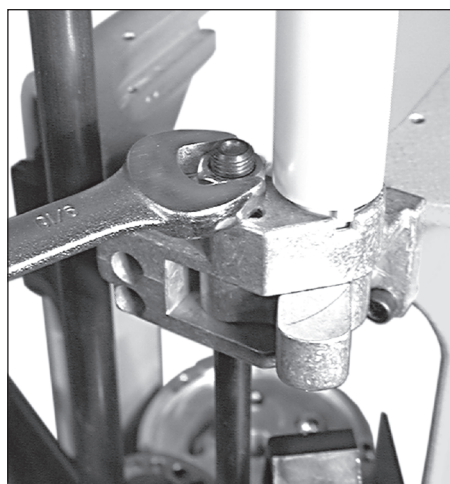

FIG 189
2. Using a 9/16" wrench, loosen the lock nut FIG 189 on the camming pin.